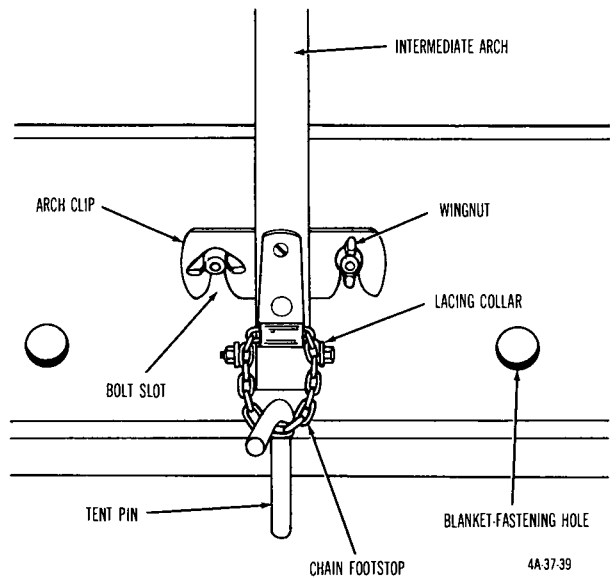
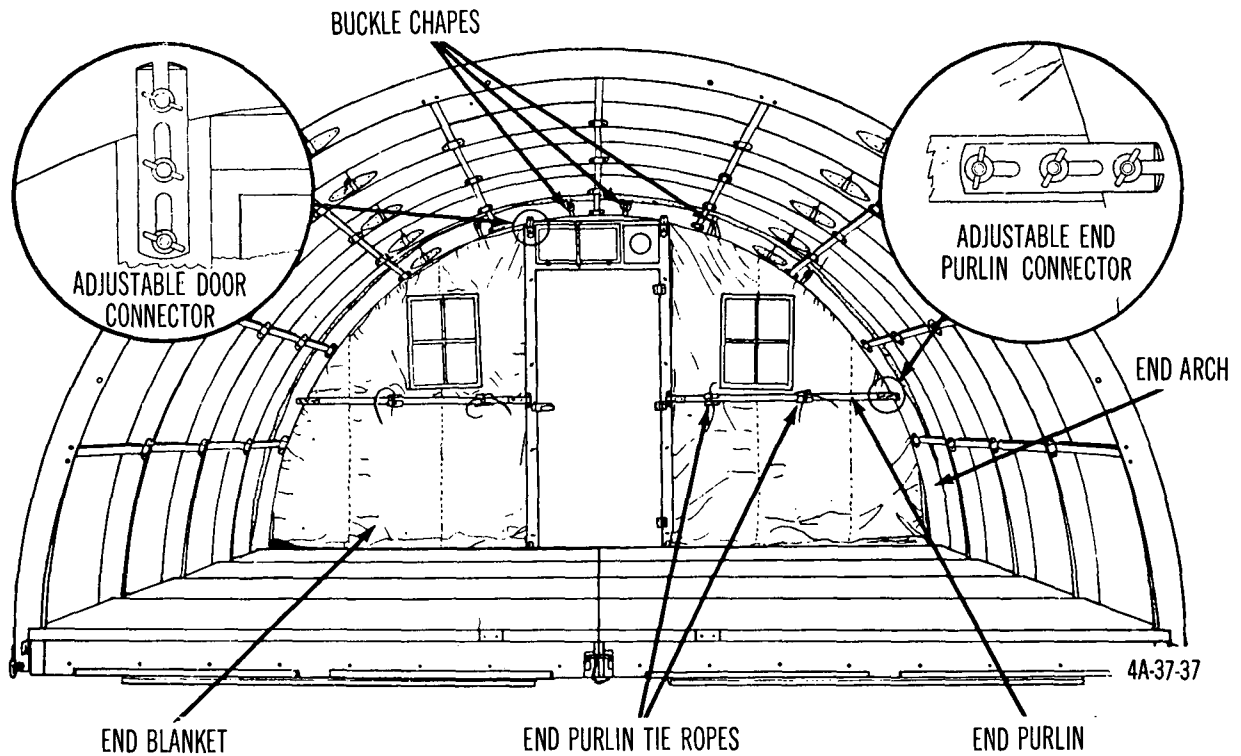

Figure 65. Attaching arches to floor of tent, frame-type, insulated, sectional.
Figure 67. Attaching end blanket to frame of tent, frame-type, insulated, sectional (inside view).
- (e) Place assembled arches over each end of the floor and at each junction of floor sections. Slide arch clips over wingnut bolts and tighten wingnuts (fig. 65).
- (g) Drive tent pins through chain foot-stops located at the ends of each arch (fig. 65).
- (2) *Attaching end blankets to tent frame.*
- (b) Slide adjustable door connectors at top of door frame over bolts at top of end arch, and tighten connector wingnuts (fig. 67).
- (c) Pull blanket hem over end arch, and attach blanket fabric to end arch with buckle chapes (fig. 67).
- (f) Attach end purlins between end arch and door frame. Tie end blanket to purlins (fig. 67).